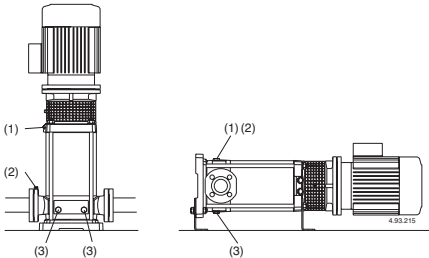
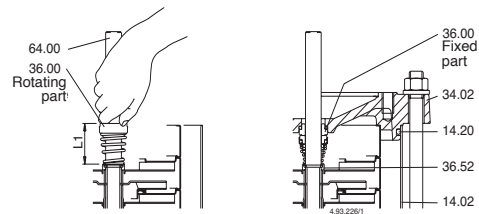

Fig.4 (1) Filling and air vent
Fig.5 Inserting the mechanical seal
When the pump is located above the water level (suction lift operation, **fig. 3A**) or with a positive suction head which is too low (less than 1 m) to open the non-return valve, fill the suction pipe and the pump through the priming hole (1) (**fig. 4**).
(2) Suction side air vent
(3) Draining
When the liquid level on the suction side is above the pump (inflow under positive suction head, fig. 3B), fill the pump by slowly and completely opening the inflow gate valve while keeping the delivery gate valve and air vent holes (1), (2) (fig.4) open to release the air.
Close the air vent holes (1), (2) (fig.4), for MXV-B, MXV(L) 25-32-40 e MXV(L)4 25-32-40 Tighten the needle screw (14.17) in the drainage plug (14.12) (fig. 4b) and close the air vent hole (14.04).
suction pipe couplings are perfectly sealed and tighten the air vent plug (2) and the draining plugs (3) on the suction side (fig.4).
Or, after draining, perform the washing operation, inserting clean water (at least 40 litres) into the filling hole (1) on the delivery side and allowing it to come out of the draining hole (3) on the suction side (**fig.4**).
Before dismantling, disconnect the power cable from the terminal box, close the gate valves in the suction and delivery pipes and empty the pump casing (**fig. 4**). For dismantling and re-assembly refer to the section drawing (**section 14.**) and **figures 5, 6**.
Push the rotating part as far as the shoulder ring (36.52) on the shaft (64.00), without compressing the spring. Check the length before and after insertion and raise the rotating ring as far as the initial length (L1 in fig.5).